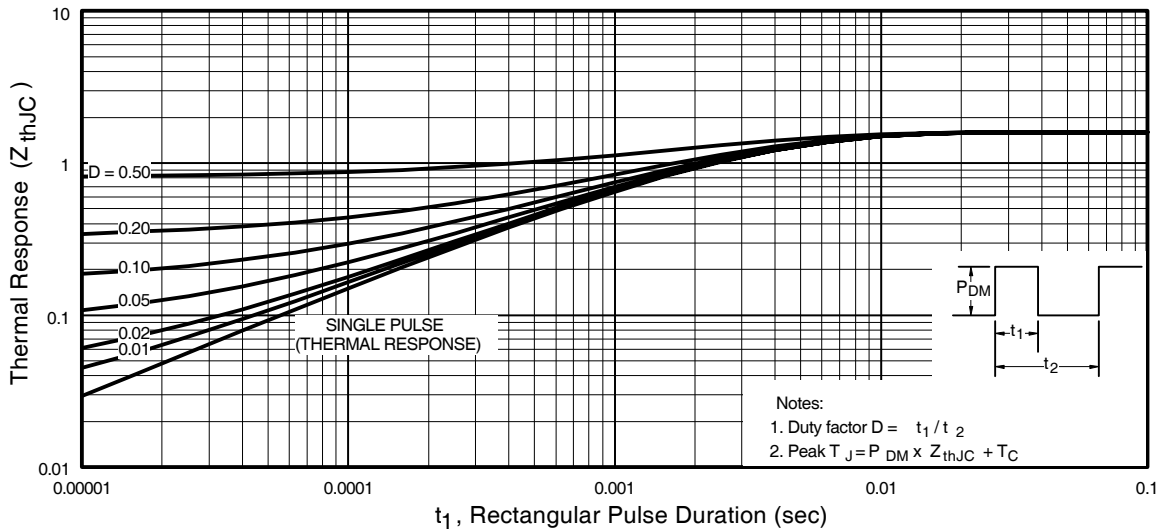

Fig 11. Maximum Effective Transient Thermal Impedance, Junction-to-Case
- ① Repetitive rating; pulse width limited by max. junction temperature. (See fig. 11)
- ② Starting $T_J = 25^\circ\text{C}$, $L = 220\mu\text{H}$